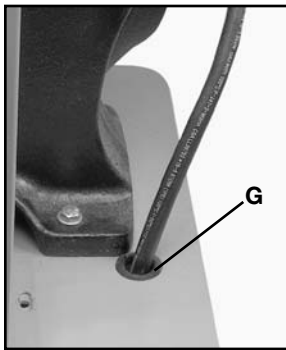

Fig. 16A
8. Push connector end of switch cord through the plastic bushing (G) Fig 16A. and plug it into the motor cord.